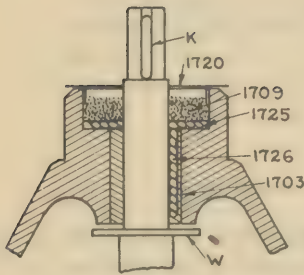
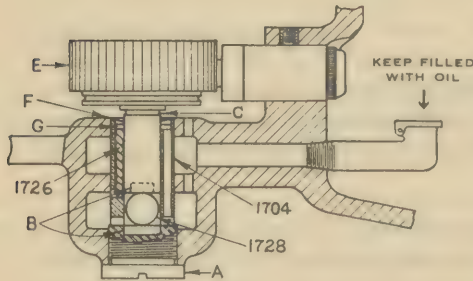

Fig. 1
Fig. 2
(a) **Lower Bearings** are similar in all sizes, (See Figs. 2, 4, 6) consisting of a bronze bushing, Nos. 1704 for Type C, 1706 for Type SB and Size 2, pressed into an oil well, with a single steel ball, No. 1728, for taking thrust between two ground steel surfaces, B, at lower end of shaft and bottom of oil well. The lubrication of this bearing is easily taken care of by keeping the side oil cup supplied with best grade of light lubricating oil.
(b) **Upper Bearings, Size 1, Types C and SB** are alike (See Figs. 1, 3) consisting of a bronze bushing, Nos. 1703, 1705, with small felt wick, No. 1726, to carry the lubricant, No. 1709, to the shaft through the length of the bushing, and a grease cup above having a felt washer, No. 1725, in its bottom to draw the lubricant to the supply wick, and a cover, No. 1720, to keep the air draft from blowing the lubricant out of the cup. The lubricant that has been found to be the most satisfactory is supplied by us in compressible tubes and called I.E.C. Lubricant.
(Note): To get at this bearing for inspection, the head must be removed from the shaft. This should be easily done, first turning back the set screw in the hub of the head, then grasping the head on opposite sides and pulling up sharply. If the head does not yield readily, it indicates (1) corrosion, or (2) abrasion or roughening of shaft, or slight upsetting of shaft at the angle where the key, K, Figs. 1, 3, 5, is inserted. In these cases the shaft must be driven out of the head. Two persons working together can best do this, proceeding as follows:
(a) **Commutators** should have smooth cylindrical surfaces, E. Figs. 2, 4, 6, not scratched or cut into concentric grooves. (The method of segmenting should not be confused with the statement above. There are two methods of making segmented commutators the "flush" and the "undercut." Both are good.)
To get at the upper bearing for renewal, first remove the head from the shaft [See "General Considerations" (1) (b) (Note)] and clean out the grease cup, removing the felt washer, No. 1725 (Fig. 1). Remove centrifuge from its mounting and turn it on its side to drain oil from lower bearing through oil cup. Turn centrifuge upside down, mark motor base and casing in such a way as to insure motor base being replaced in same position. *Remove the carbon brushes.* Remove the three screws securing the motor base to the casing. Disconnect the armored cable and lead wires at rheostat. Lift off motor base, being care-
ful not to lose the steel ball No. 1728, Fig. 2, from the bottom bearing. Then lift out the armature, also being careful not to lose the iron washer W, Fig. 1, on the top end of the shaft. The upper bearing which is in the guard casing is now exposed and the bronze bushing may be pushed or driven out using a hard wood dowel of approximately the same diameter as the bushing and flat on the end. Do not use a metal dowel since it might upset the bronze bushing. The new bushing may then be pushed or driven in in the same manner. It is important to see that the bushing is right end up. The open end of the wickhole should be at the top. The face of the bushing at the top end should be flush with the finished face of the iron housing when finally in place. The wick, No. 1726 (Fig. 1), should come to the upper end of the bushing, No. 1703, so as to be in contact with the felt washer, No. 1725.
*Be sure the washer, W (Fig. 1), is in place when reassembling.*
Return felt washer, No. 1725 (Fig. 1), and refill cup with lubricant, No. 1709.
Remove head from shaft [See General Considerations (1) (b) (Note)]. Remove cover, No. 1720 (Fig. 1), and clean out the grease cup, removing the felt washer, No. 1725. Turn the centrifuge on its side and drain the oil from the lower bearing through the oil cup. Then invert Centrifuge and remove screw plug A (Fig. 2) at bottom bearing.
The steel ball may now be removed. Then disconnect the armored cable and lead wires at the rheostat and remove the carbon brushes from the brush holders. Remove the cap screws from the motor base, marking the base and casing so as to be sure and replace in the same position. Remove the base and rest it on its flange on a blocking of wood in such a manner as to protect the field coils and the machined surface of the base. Drive out the bronze bearing bushing, No. 1704 (Fig. 2), (using a hard wood dowel rather than a metal rod to avoid injury to the metal. The dowel should be approximately the same diameter as the bushing and flat on the end). Reverse the motor base and drive in the new bearing bushing from the inside, using the same precautions. The bushing should go in so that its end face is flush with the finished surface of the motor base, F (Fig. 2). It is important to see that bushing is right end up. The concentric grooved end should be at the top. See that the wick, No. 1726, comes only up to the lower edge of the concentric groove, G, near the top of the opening. Reassemble motor in reverse order.
*Be sure that the iron washer, W (Fig. 1), is in place when reassembling.*
Replace felt washer, No. 1725 (Fig. 1), and refill cup with lubricant No. 1709.